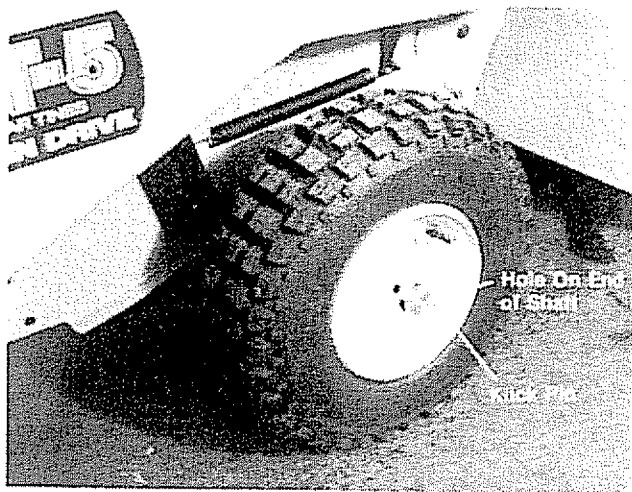

FIGURE 17.
1. Place klick pins in freewheeling position. See figure 17.